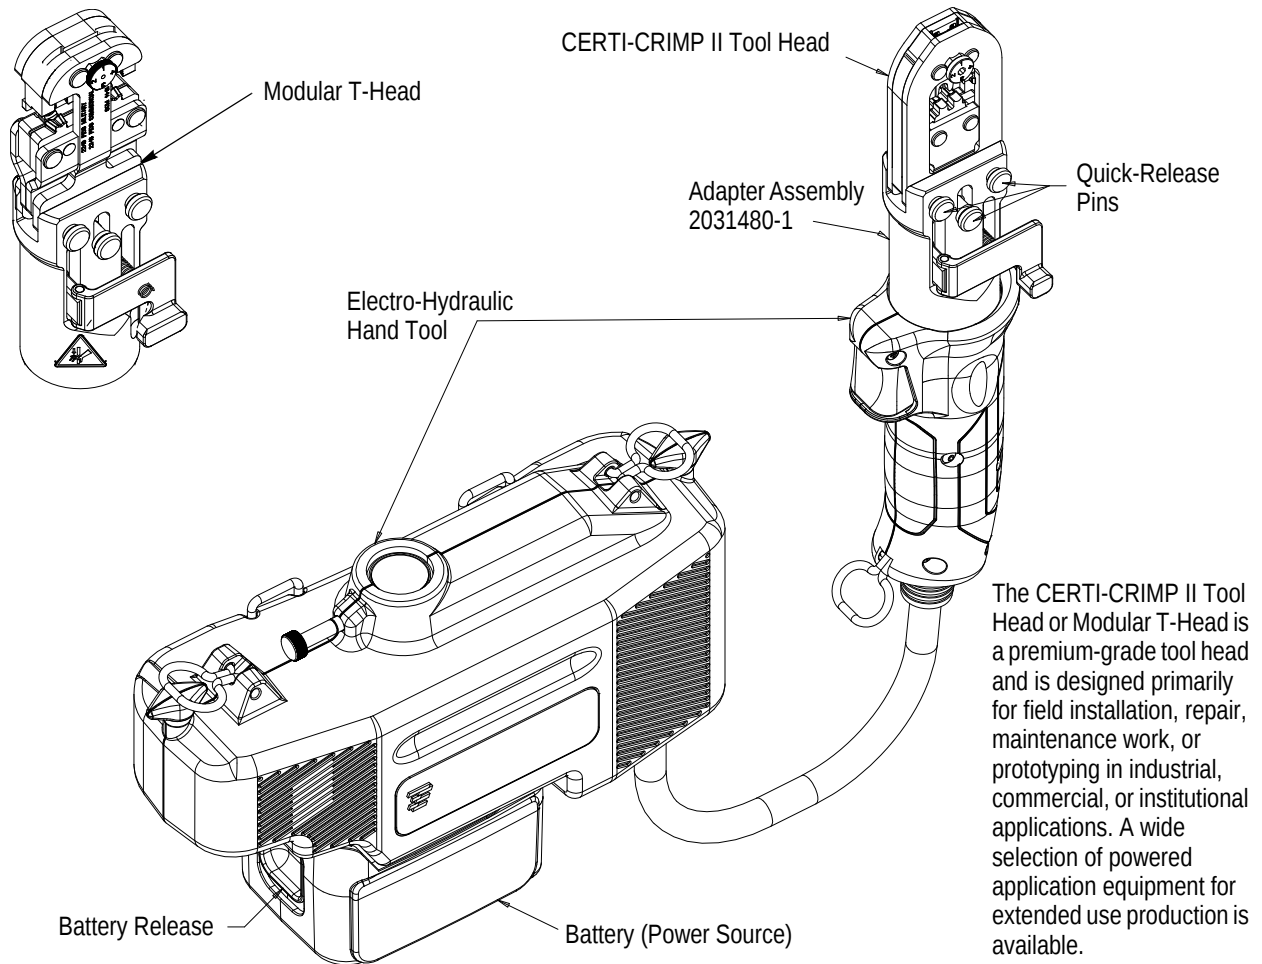

Figure 1
The TE Connectivity CERTI-CRIMP II Tool Head / Modular T-Head Adapter Assembly 2031480-1 is designed to couple any TE CERTI-CRIMP II head assembly (example: 91500-3) or Modular T-Head Assembly (2161000-1) to the Electro-Hydraulic Hand Tool (2031400-[]). Refer to Figure 1 to see the hand tool, adapter, and tool head.
- Added new artwork to Figure 1